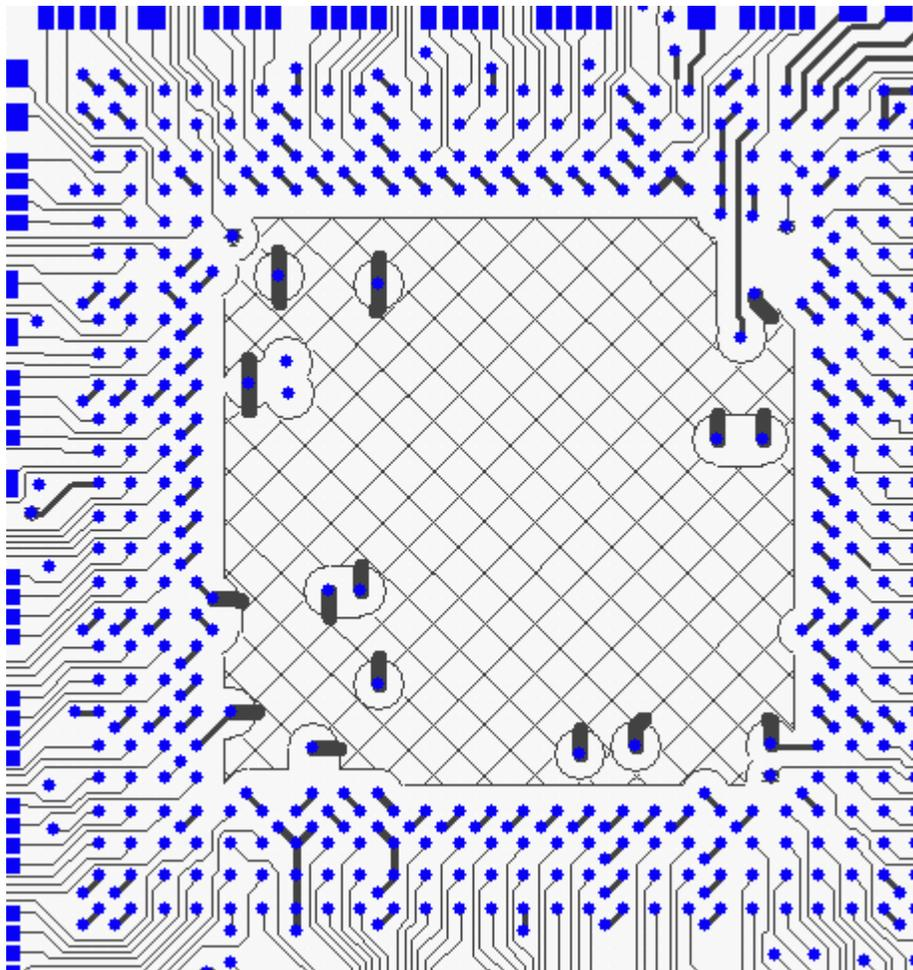

Figure 5-5. EPGA Ball Escaping
A via fits between any set of four land pads of the EPGA, as shown in Figure 5-5. Since the land pads are defined only on the top layer, it is necessary for some signals to trace-escape from the land pads to a via, then continue routing the trace on the bottom layer away from the EPGA. Using 5 MIL traces to escape the EPGA, allows two traces to fit between land pads. Therefore, the outer three rows of land pads should always be escaped on the top layer only. Exceptions occur when vias block the top layer routing channel, as in the case of power and ground traces which must escape the land pad, then connect through a via to their respective planes. In this case, the third row land pads (from the outside of the part, not the actual row number) also must be escaped to a via first, then routed on the bottom layer away from the EPGA. Avoid areas of high density via population, as this can choke current paths. Following are some specific recommendations pertaining to the ball escaping of the GX1:
- Route the escape traces for adjacent power/ground land pads in opposite directions to increase routing channels. Route these traces inward, placing the via toward the cavity so that the second row land pads may still be escaped on the top layer. (See Figure 5-5.)